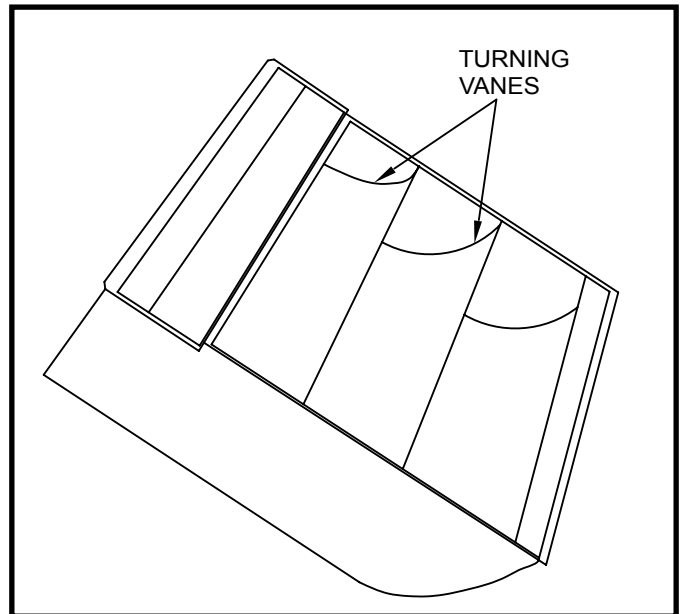

Fig. 10. Turning vanes installed in bend help distribute airflow evenly over face of media.
1. Use gradual transitions to reduce air turbulence and increase efficiency. See Fig. 10